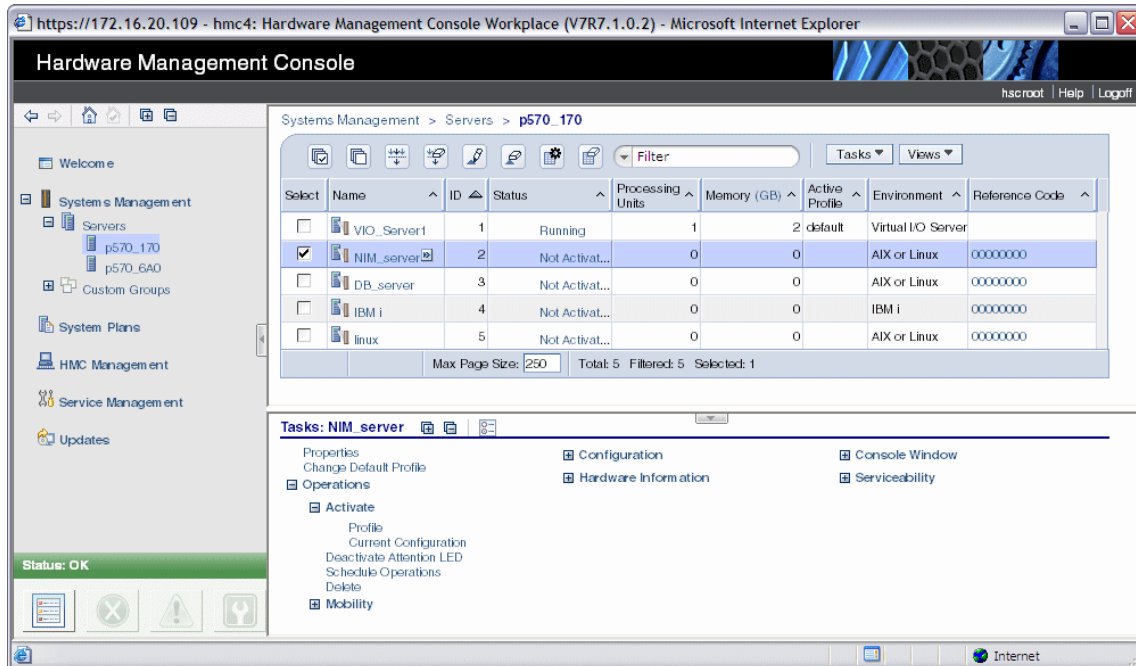

Figure 13-12 The list of partitions for the basic setup
14. The complete list of partitions for the basic setup is shown in Figure 13-12. The partition *NIM_server* is selected for installation.